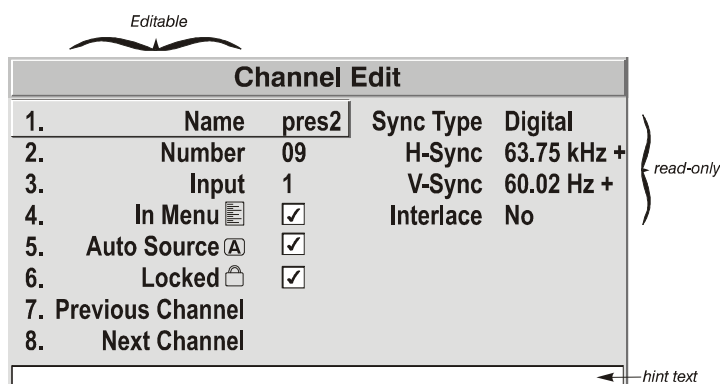

Figure 3-16 Channel Edit Menu (SAMPLE)
- To edit parameters shown in the **Channel Setup** menu, select the relevant channel, and press **↩**. The **Channel Edit** menu appears as shown in the sample in Figure 3-16.